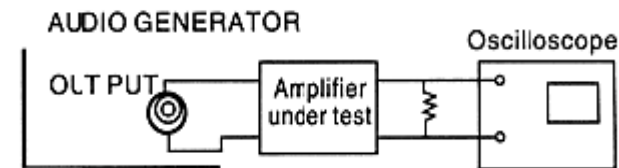

Fig.7
- 4.1 Connect the instrument, an amplifier to be tested and an oscilloscope as shown in Fig . 7.